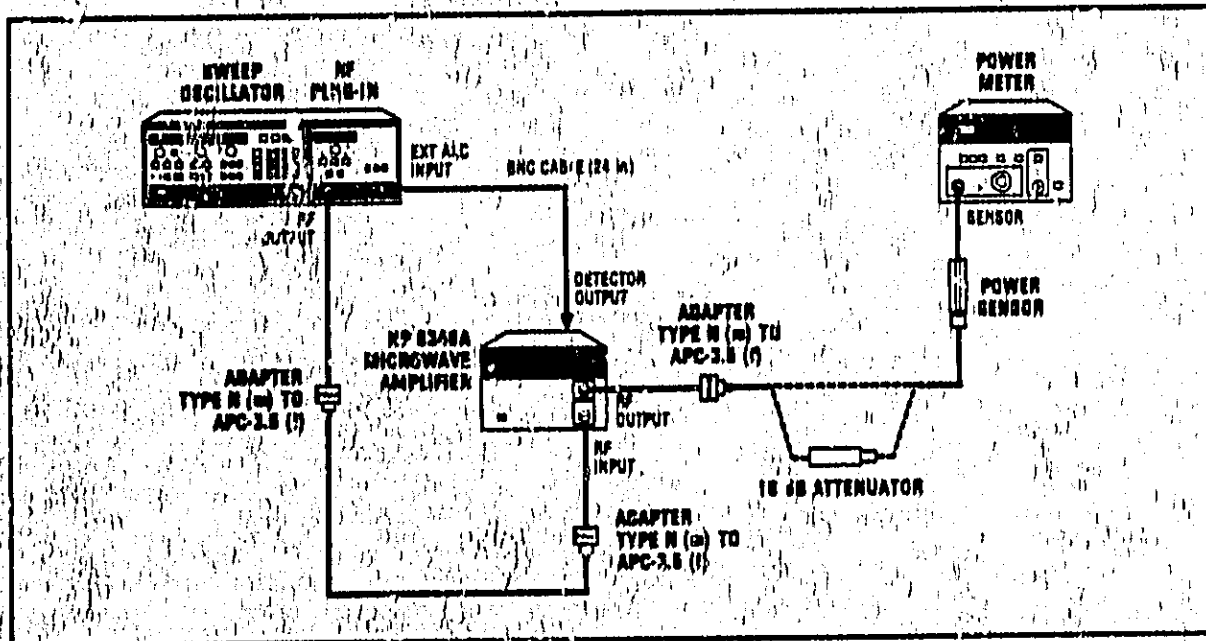

Figure 4-2. Levelled Output Power and Flatness Test Setup
34. Connect the equipment as shown in Figure 4-2 with the power sensor connected to the HP 8349A's RF OUTPUT (attenuator not installed).
38. Connect the 10 dB attenuator between the adapter and the power sensor as shown in Figure 4-2. While monitoring the power meter, adjust the manual frequency from 2 to 18.6 GHz and determine the frequency of the maximum power point. Return the sweep oscillator to the frequency of the maximum power point.
41. Connect the equipment as shown in Figure 4-2 with the power sensor connected to the HP 8349A's RF OUTPUT (attenuator not installed).
45. Connect the 10 dB attenuator between the adapter and the power sensor as shown in Figure 4-2. While monitoring the power meter, adjust the manual frequency from 18.6 to 20 GHz and determine the frequency of the maximum power point. Return the sweep oscillator to the frequency of the maximum power point.